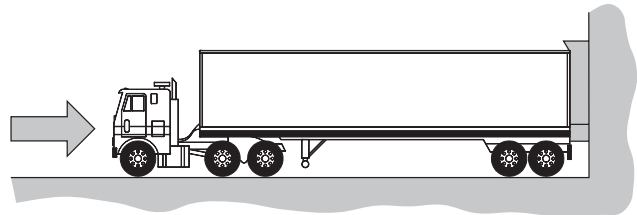

Figure 4: Trailer parked at dock
4. Release the parking brake and immediately, but slowly move the trailer to re-establish contact with the loading dock, Figure 3 and Figure 4.